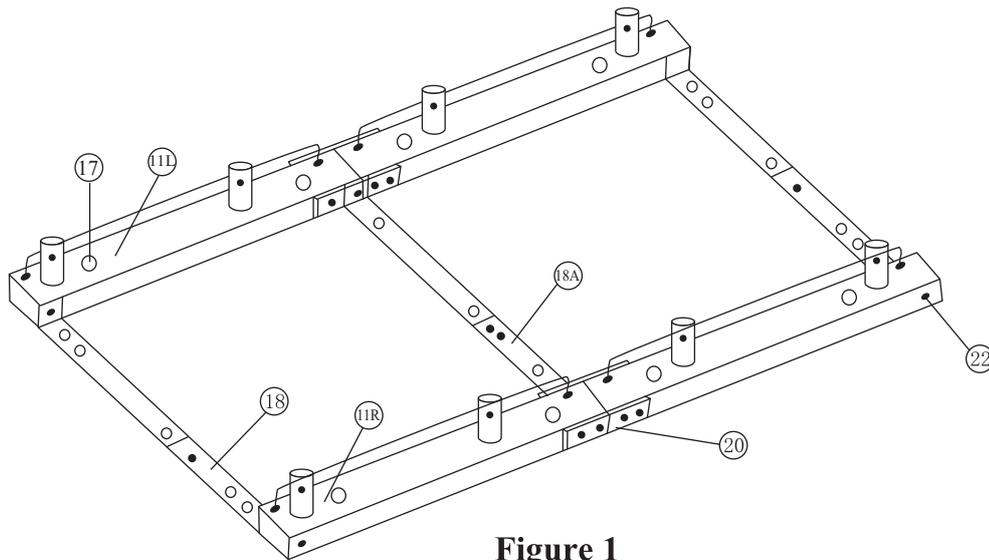

Figure 1
Step2. Place the Base Rail Connecting Bracket(No.18) between the Base Rail Section (11L&11R) at front and rear ends. You will note that No.18 have 2 holes at each end at the base rails. The Remaining Connecting Bracket(No.18A)are used in the center and they have only 1 hole at each end. See Figure 1